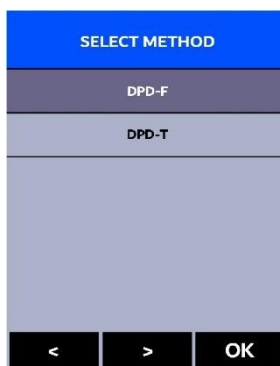

Figure 9 – Select Test Method
3. Press  to launch the **SELECT METHOD** screen (Figure 9).